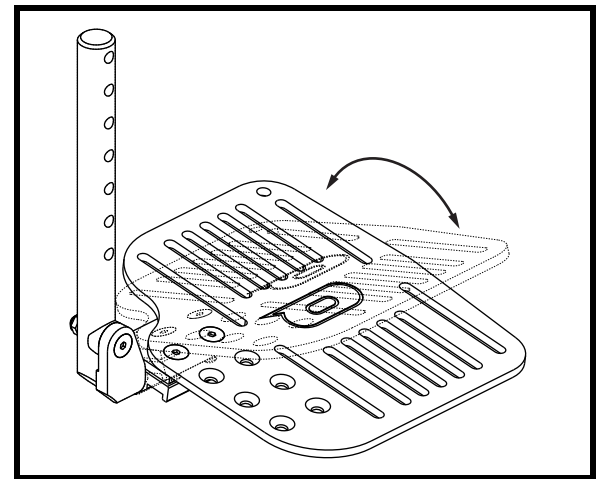

Figure 30. Foot Plate Angle Adjustment
2. Tilt the foot plate forward or back to the desired angle. See figure 30.